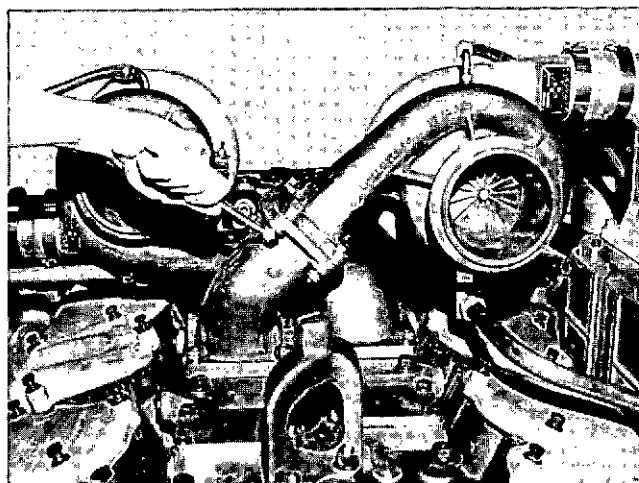

Fig. 14-1-102, V414186. T-50 turbocharger installation
2. Install gasket and lift turbocharger into position against exhaust riser. Secure with bolts and nuts. Fig. 14-1-102.